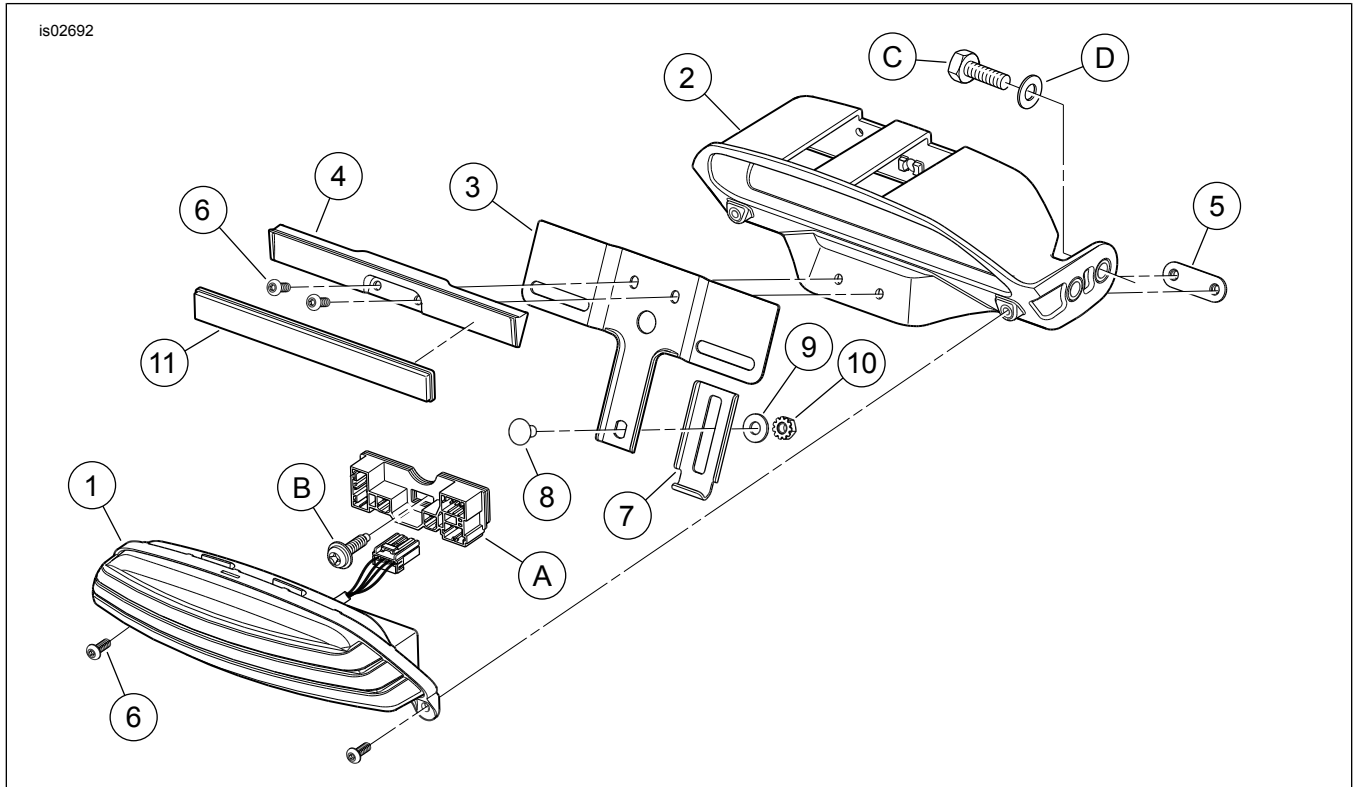

Figure 2. Service Parts, LED Tail Lamp
See Figure 2 and Table 1.
4. Depress the locking tabs, and disconnect both two-place turn signal socket housings [18B] and [19B](5) and the six-place power connector [94B](6) from the circuit board.
5. Remove the Phillips head screw (8) retaining the circuit board, and remove the pin housing/circuit board and lamp base from the vehicle. Discard the lamp base, but retain the pin housing/circuit board and screw.
8. See Figure 2. Obtain the new license plate/tail lamp bracket (2) from the kit. Hold the bracket in position under the fender, and drop the six-place power connector [94B] and both two-place turn signal connectors [18B] and [19B] down through the slots in the top of the bracket.
12. Obtain the **new** tail lamp (light envelope, item 1) and two black screws (6) from the kit. Connect the socket housing on the lamp assembly to the four-place pin housing in the circuit board.
14. Obtain the **new** license plate bracket (3), reflector bracket (4), nut plate (5) and two remaining black screws (6) from the kit. Use the screws to fasten the brackets, in the sequence and orientation shown, through the license plate/tail lamp bracket and into the nut plate. Tighten the screws to 2.3–2.7 N·m (20–24 in-lbs).
15. Obtain the reflector (11) from the kit, and peel the backing from the adhesive surface. Hold the reflector up to the reflector bracket, and press the reflector firmly and squarely into place.